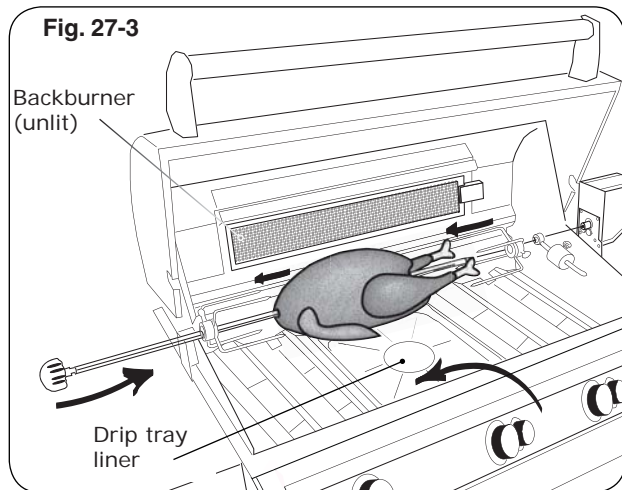

Fig. 27-3
4. Slide the left meat holder onto the rod (and tighten), the meat onto the rod and into the holder, followed by the right meat holder onto the rod and into the meat as shown in Fig. 27-3. Tighten the right meat holder. Be sure the meat is centered and balanced as well as possible.
11. To keep drippings off the burners and simplify cleanup, place Fire Magic® drip tray liners under the meat, if desired (Fig. 27-3).